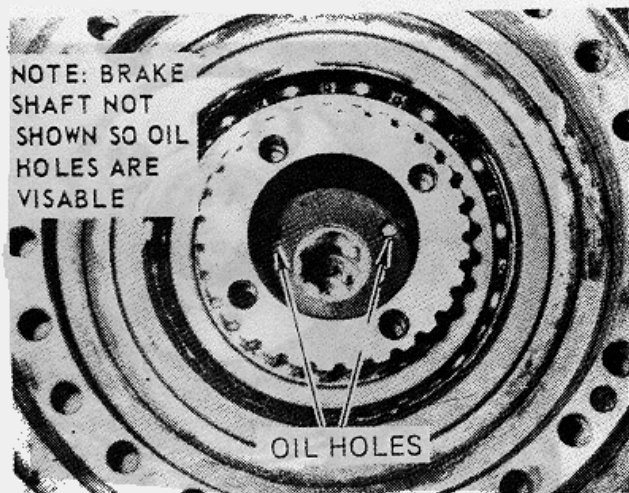

FIGURE 7-94.
e. Turn the drive shaft from the motor housing end until the oil holes in the outer planetary hub are horizontal with the floor and above center (C350B only) (see figure 7-94).